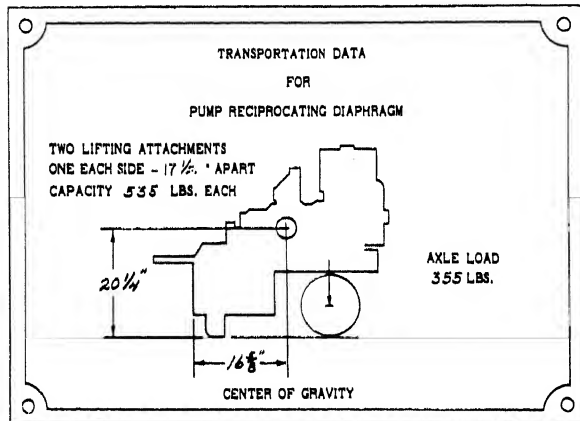

FIGURE 1A
4. Unpacking and inspection — The pump is boxed and secured within the box. Upon unpacking, make a visual inspection for any damage or theft in transit. Manuals are contained in a canvas bag for each pump. If pump is to be lifted, see the transportation data plate (Fig. 1A) for lifting. Lifting "eyes" are provided on each side of the pump frame. Four 10' long sections of 4" diameter hose with two 4" diameter close nipples are contained in one box for each pump.